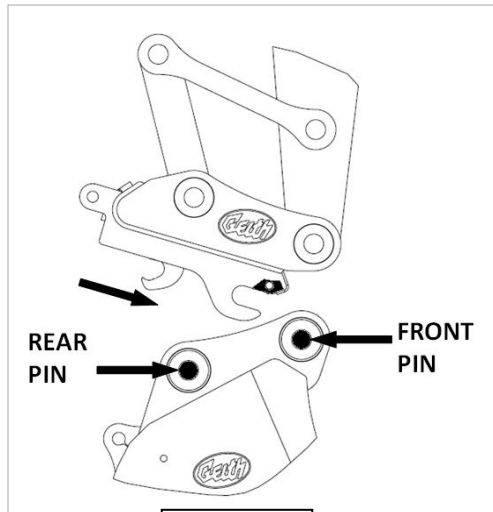

Fig. 7
2. When the Auto-Lock is open, crowd the Quick Coupler to the open digging position and lower the Quick Coupler hooks down onto the front pin. Crowd the Quick Coupler around until the Quick Coupler contacts the bucket back pin and raise the bucket off the ground while continuing to crowd the Quick Coupler fully inwards to the closed position. See fig. 7 and fig. 8.